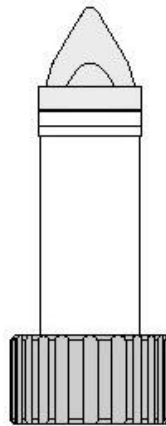

Figure 1-10. SZI9 Target Rod
- g. **SZI9 Target Rod.** The SZI9 target rod (Figure 1-10) serves as an aim point for instruments sighting on the GLPS. The target rod is pushed onto the connector on the theodolite carrying handle by means of a rubber attachment. Power is provided directly through the socket. The light is switched on by turning the target rod clockwise or counter clockwise until the electrical contacts between the target rod and connector make contact. A light bulb in the tip provides light controlled by a rheostat and protected by a fuse, both located on the carrying handle of the theodolite.